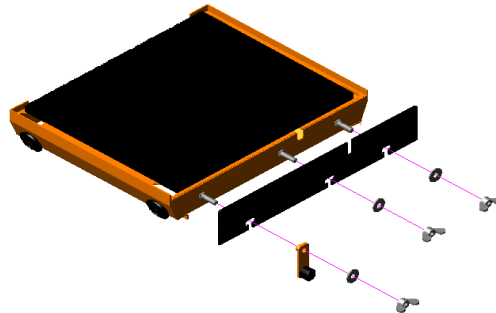

Figure 1: Back Stop Assembly
Remove the Conveyor Cart and Back Stop from the Saws Water Pan, and the Wing Nuts, Carriage Bolts, Washers, and Cart Stop from the plastic bag. Slide one (1) Carriage Bolt thru each of the three (3) Square Holes located on the front of the Conveyor Cart. Slide the Back Stop Over each of the Carriage Bolts. Slide the Stop Assembly over the Carriage Bolt Located on the Left front of the Conveyor Cart NOTE: The Rubber Stop will faces away from the Conveyor Cart. Attach one (1) Washer and one (1) Wing Nut to each Carriage Bolt and Tighten. **See Figure 1: Back Stop Assembly.** Place the Conveyor Cart on the Machine.